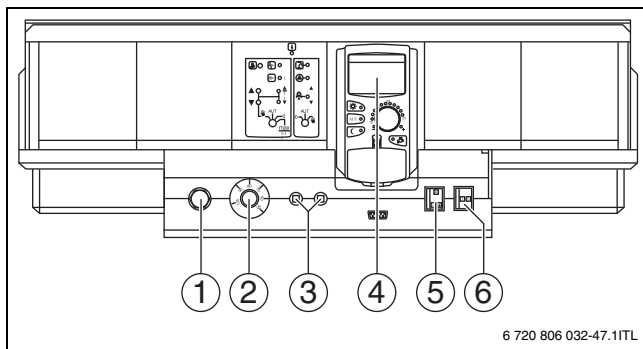

Fig. 3 Control unit, example CFB 930 control
Start your boiler at the control unit (in this example, Fig. 3: CFB 930 control). The adjustments made in the control unit will affect the burner as well. The burner can then be started by the control unit.
Shut your boiler down via the control unit (e. g. CFB 930 control → Fig. 3, page 6). This also switches the burner off automatically.
- ▶ Set the ON/OFF switch (→ Fig. 3, [2]) to "0" (OFF).